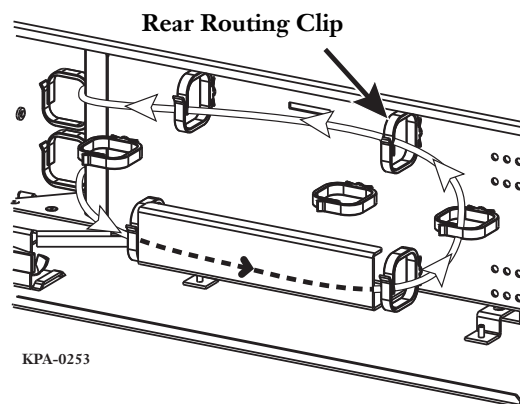

Figure 6 — Route Pigtail Through Rear Routing Clips
- Step 3:** Route the pigtail through the front routing clips, around to the back of the splice shelf through the side routing clips, and back through the side routing clips to the front again (Figure 6).